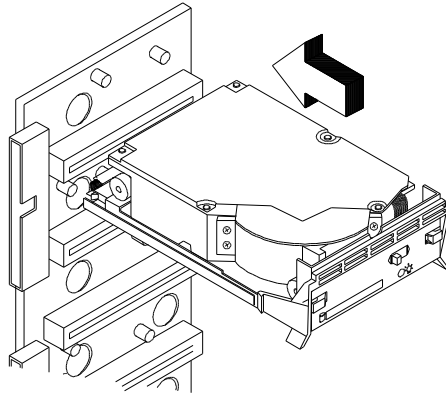

Figure 16 *Installing the Hot-swap Drive Tray*
- Install the drive tray into the backplane board. See Figure 16 on the following page.